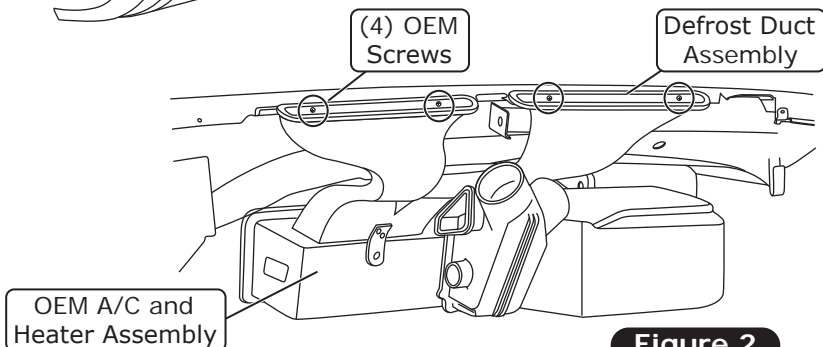

Figure 2
7. Remove the defrost duct assembly by removing the (4) screws (See Figure 2, below).
8. Remove the A/C and heater assembly (discard) (See Figure 2, below).